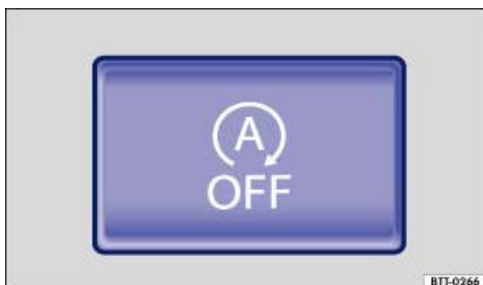

Fig. 136 In the lower part of the centre console: button for the start/stop system.
- Press the  button in the lower part of the centre console → Fig. 136 to switch off the system. If the start/stop system has been deactivated, the indicator lamp in the button lights up.
- Press the  button in the lower part of the centre console → Fig. 136 to switch the system on again.